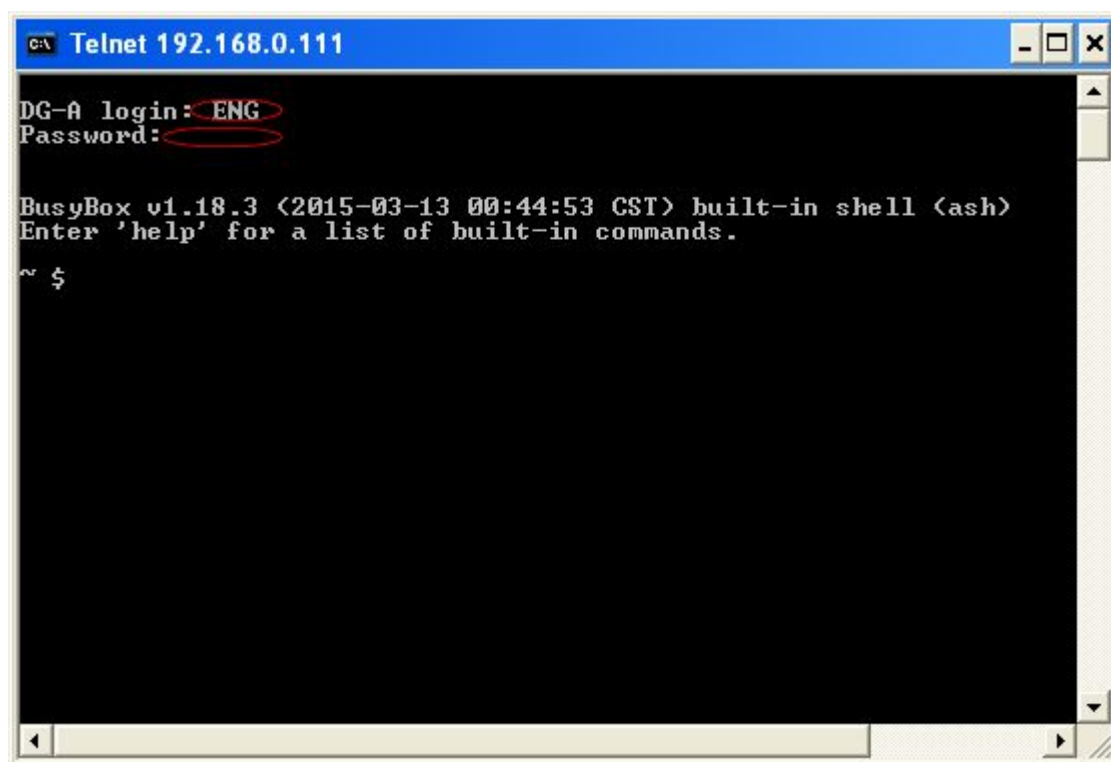

Figure 6.1 Telnet interface
- Input username and password as shown in Figure 6.1 to login the device